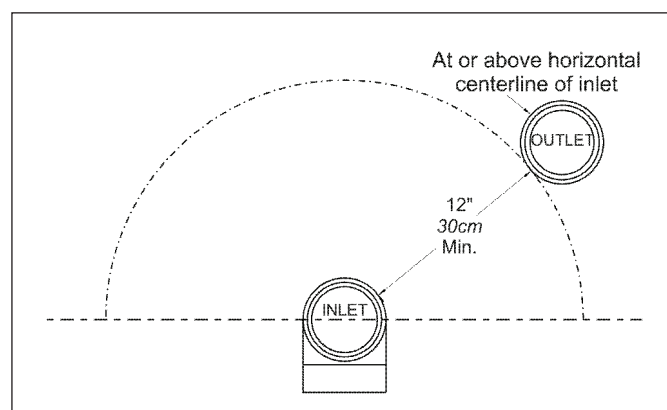

Figure 9. Minimum Venting Distance.
6. Vent outlet must be no lower than the center of the air inlet, and must be at least 12" (30cm) away from the air inlet (see **Figure 9**).